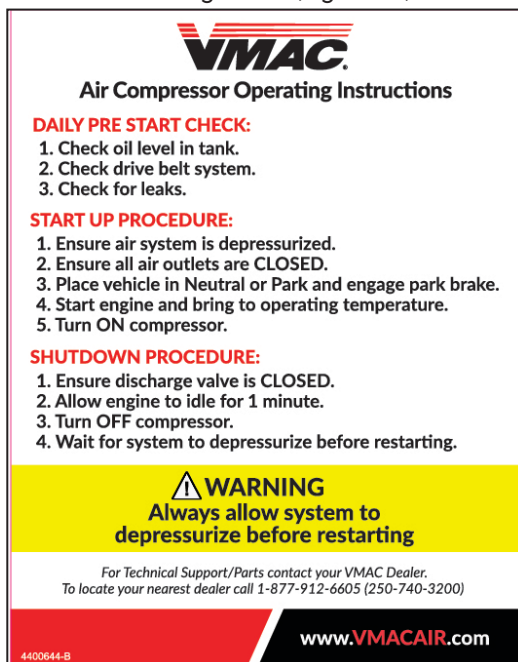

Figure 43 — Operating Instruction decal
- As part of the installation process, ensure that the safety and operational instruction decal is affixed in an obvious location so that it can be seen by vehicle operators. A good spot for this is usually on the inside of the door or on the panel underneath the steering wheel (Figure 43).